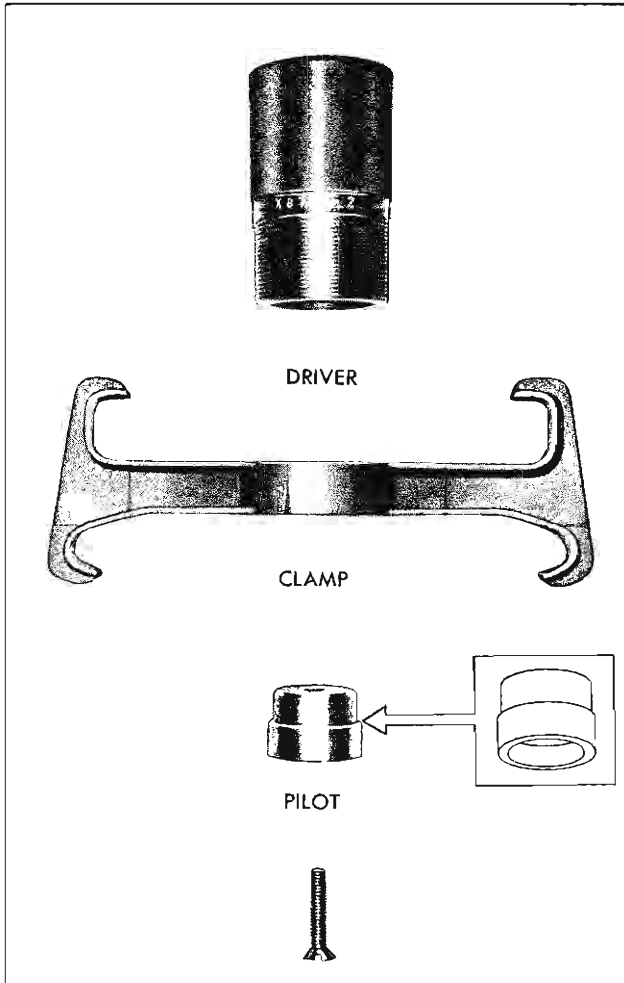

Fig. 15L—Installer Tool Assembly
**NOTE:** This tool is used differently for 8 cylinder engines. Assemble as shown (fig. 15L) for use here.